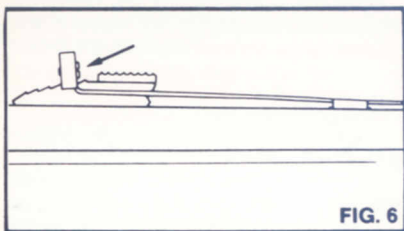

FIG. 6
**SIGHT ADJUSTMENTS** — Your firearm can be adjusted to shoot higher by moving the rear sight elevator backward by one or more notches. In order to shoot lower, the elevator can be moved forward (Figure 6). By gently tapping the rear sight base (where fastened to the barrel) to the right, your gun will shoot more to the right. An adjustment to the left can be made by tapping the base to the left. If necessary, an additional elevation adjustment can be
**REGLAGE DE LA HAUSSE** — Votre arme peut être réglée pour tirer plus haut en reculant le curseur d'une ou plusieurs encoches. Pour tirer plus bas, poussez le curseur vers l'avant (Fig. 6).